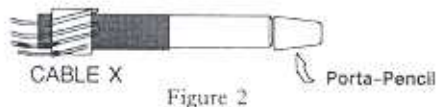

Figure 2
1. Place Porta-Pencil over conductor strands of Cable X. Large end should butt against cable insulation end. Figure 2.